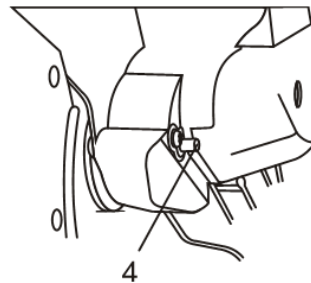

Fig. 33
4. Press the spindle lock (4) and carefully rotate the blade until the spindle lock engages with the blade and stops the blade from turning (Fig. 33).